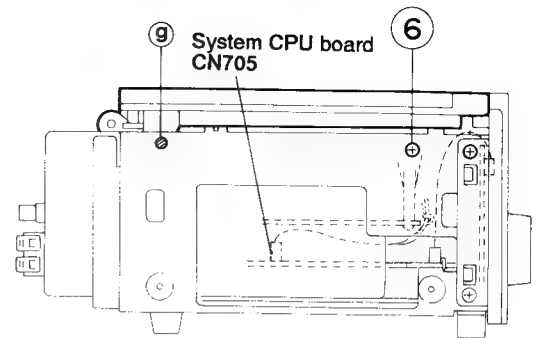

Fig. 5-25
(See Figs. 5-25 and 5-26)
1. Remove the two screws ⑥ from the side of the body.
3. While spreading the engagements ⑨ and ⑩ between the right and left side of the CD player section, remove the CD player section upward from the chassis.
4. Disconnect the 4pin connector from the connector CN705 on the system CPU P.C. board (See Fig. 5-25).
(See Figs. 5-25~5-28)